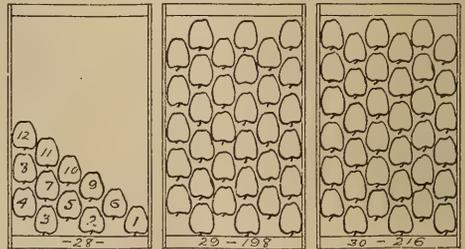

Fig. 18.—Shows how to start a three-three pack.
1. Place the pears as 1, 2, 3, 4, 5, 6, 7, 8, 9, 10, 11 and 12 of cut B in Fig. 18.